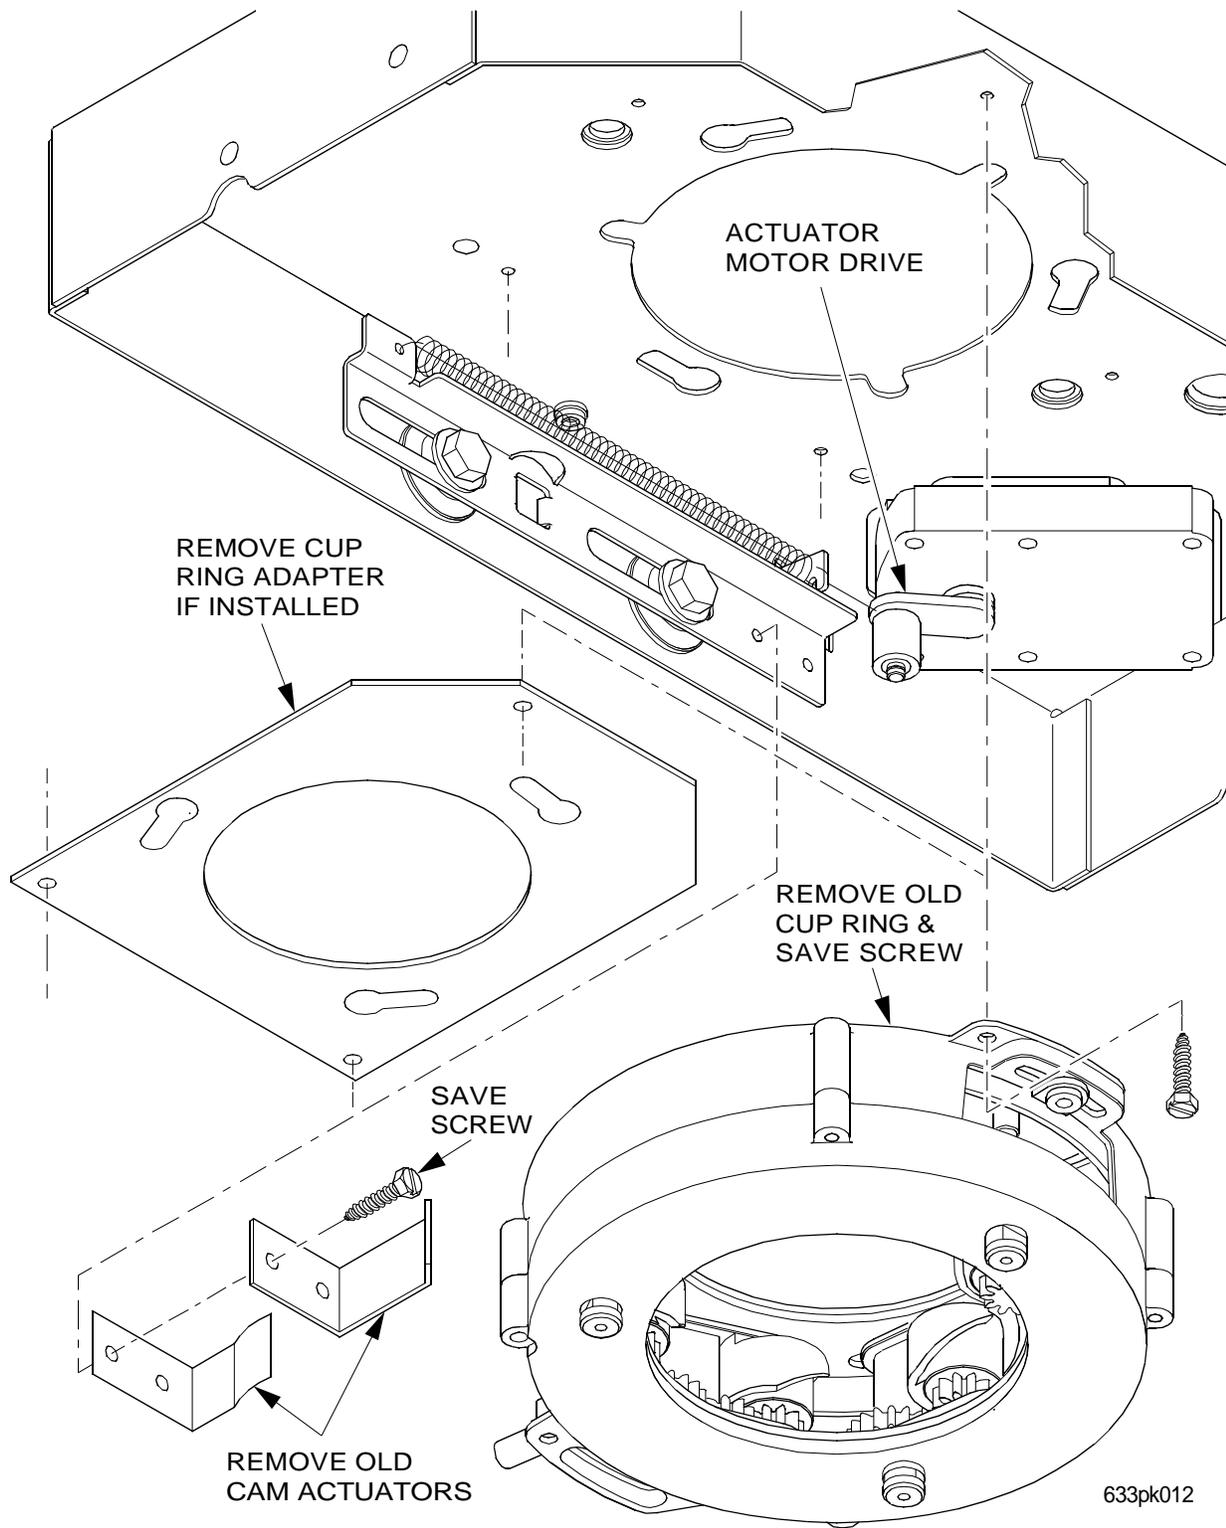

Figure 1
1. Remove the fastening screw (or screws), as shown (figure 1). Save one screw.
2. Remove the two screws (save) holding the cam actuator and discard the actuator (figure 1).